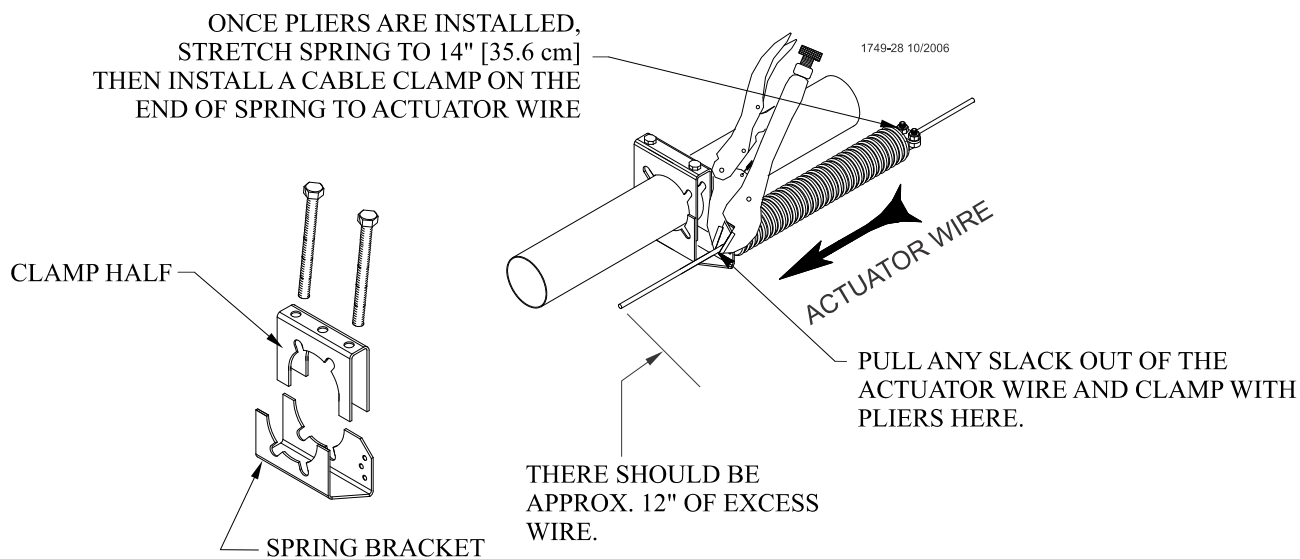

Figure 61. Terminal Bracket
6. Clamp with pliers once slack has been removed from the actuator wire, see figure 61.
9. Clamp the springs to the actuator wire using an 1/8 inch cable clamp, see figure 61. Repeat procedure for the remaining actuator wire installation,